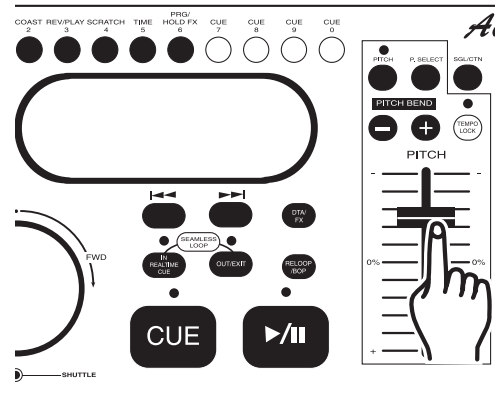
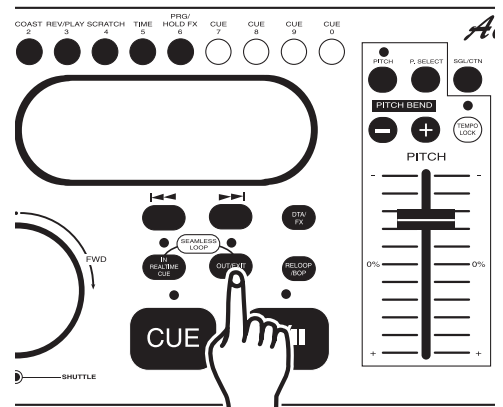

Figure 13
Figure 25
3) Press the *OUT/EXIT BUTTON* (28) to set the ending point for your *SEAMLESS LOOP* (Figure 13). The *IN REAL-TIME CUE BUTTON* (26) and *OUT/EXIT BUTTON* (28) LEDs will begin to flash indicating *SEAMLESS LOOP* mode has been activated.
**LOOP INDICATORS** - During a seamless loop, the *LOOP* (65) and *RELOOP* (64) *INDICATORS* will light in the *LCD* (14) indication a loop is active.
**EXITING A LOOP** - To exit a *SEAMLESS LOOP*, press the *OUT/EXIT BUTTON* (28). The *IN REAL-TIME CUE BUTTON* (26) and *OUT/EXIT BUTTON* (28) LEDs will remain on, but will stop flashing. Music playback will resume normal play (Figure 25). The *IN REAL-TIME CUE BUTTON* (26) and *OUT/EXIT BUTTON* (28) LEDs will remain on to remind you that a loop is stored in memory.
- 1) Press the *OUT/EXIT BUTTON* (28) to return to normal play from the loops cue point (Figure 25). This will disengage the *SEAMLESS LOOP* and allows you to edit the loops ending point.
- 2) Press the *OUT/EXIT BUTTON* (28) again when you reach your new ending point (Figure 25).
- **FOR A SHORTER LOOP:** Press the *OUT/EXIT BUTTON* (28) at sooner point in the track (Figure 25).
- **FOR LONGER LOOP:** Press the *OUT/EXIT BUTTON* (28) at later point in the track (Figure 25).